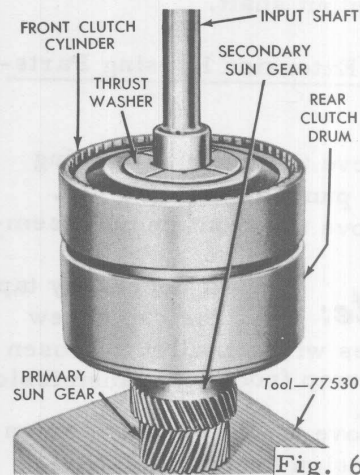

Fig. 6
- ⊗ Install the clutch assemblies in the bench fixture. (Fig. 6).